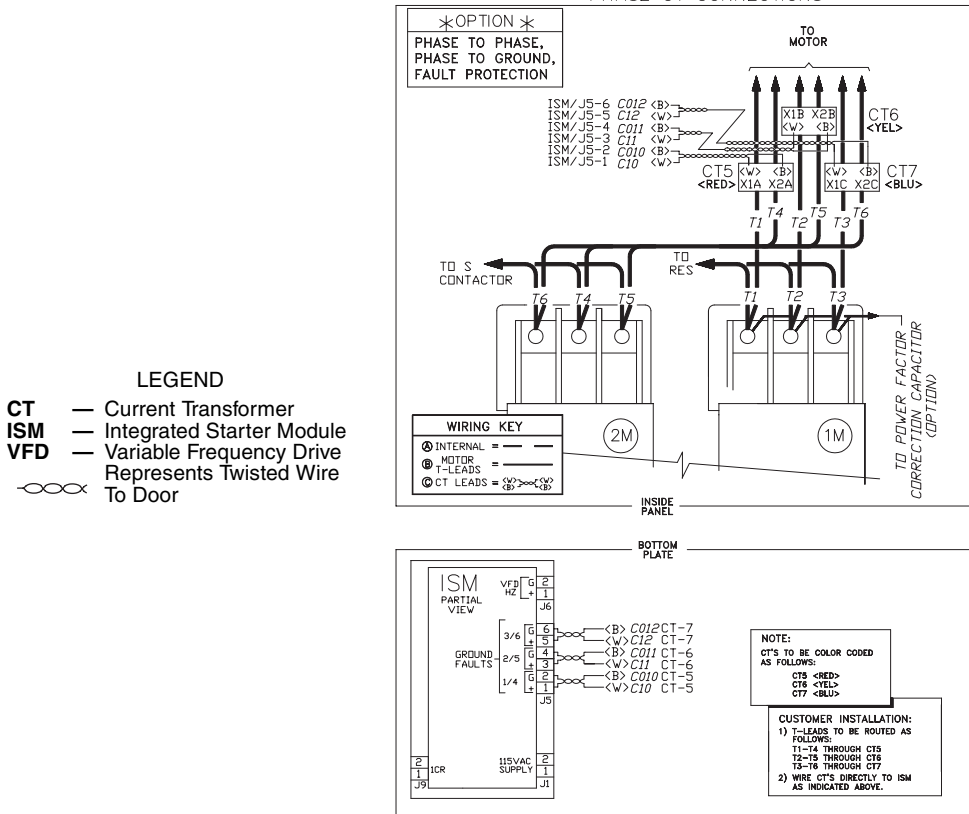

Fig. 51 — Ground Fault Phase Current Option
2. For phase to phase ground fault protection refer to Fig. 51.